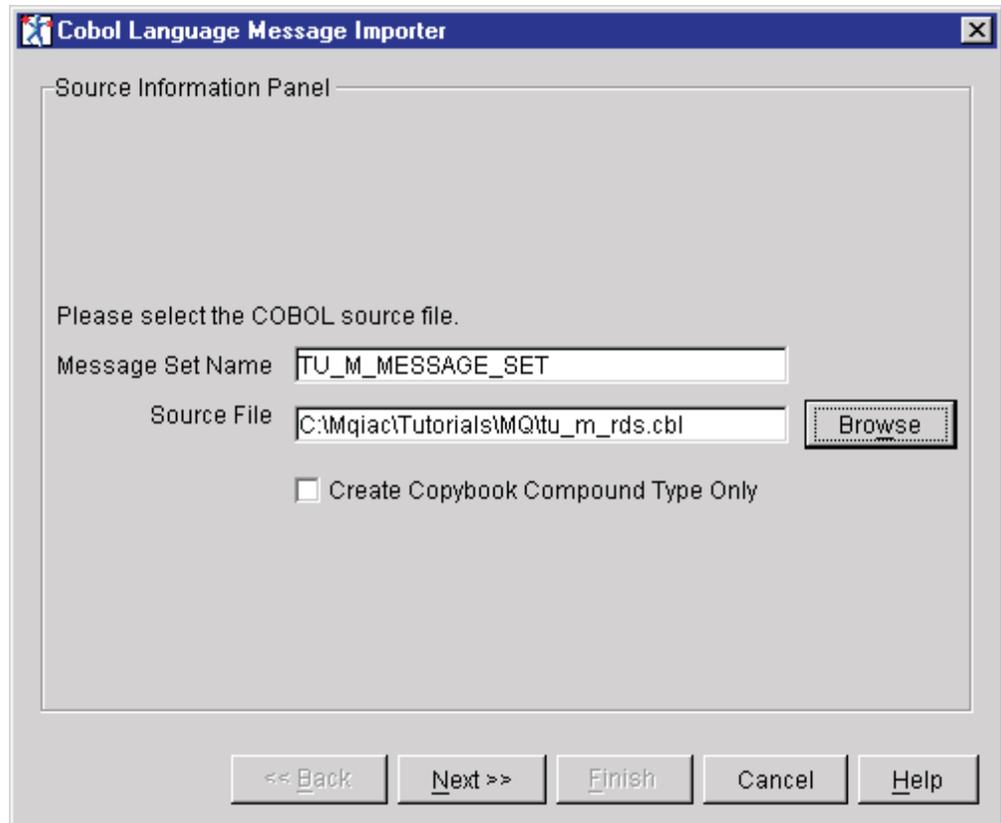

Figure 50. Import a message set (source information)
- c. Right click on the newly created TU\_M\_MESSAGE\_SET folder and select **Import to Message Set > COBOL**. On the COBOL Language Message Importer dialog (Source Information Panel), enter the directory path where the Source Files for the copybooks are located (see Figure 50 on page 78). Click **Next**.